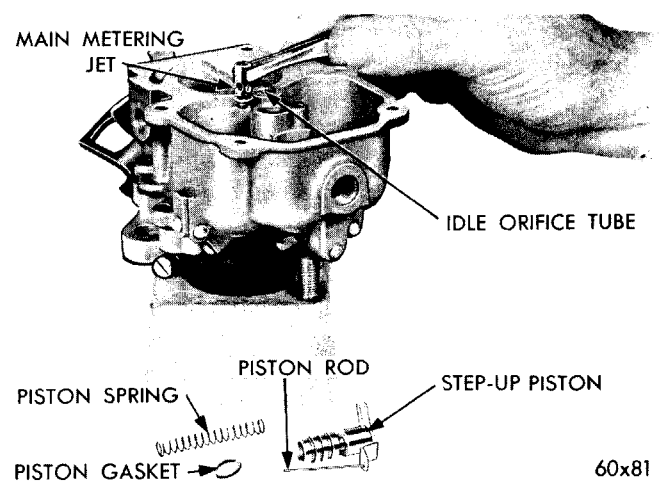

Fig. 7 — Removing or Installing Main Metering Jet
(10) Remove the main metering jet and gasket, as shown in Figure 7.
(13) Install the main metering jet and gasket, (refer to Figure 7). Tighten securely.